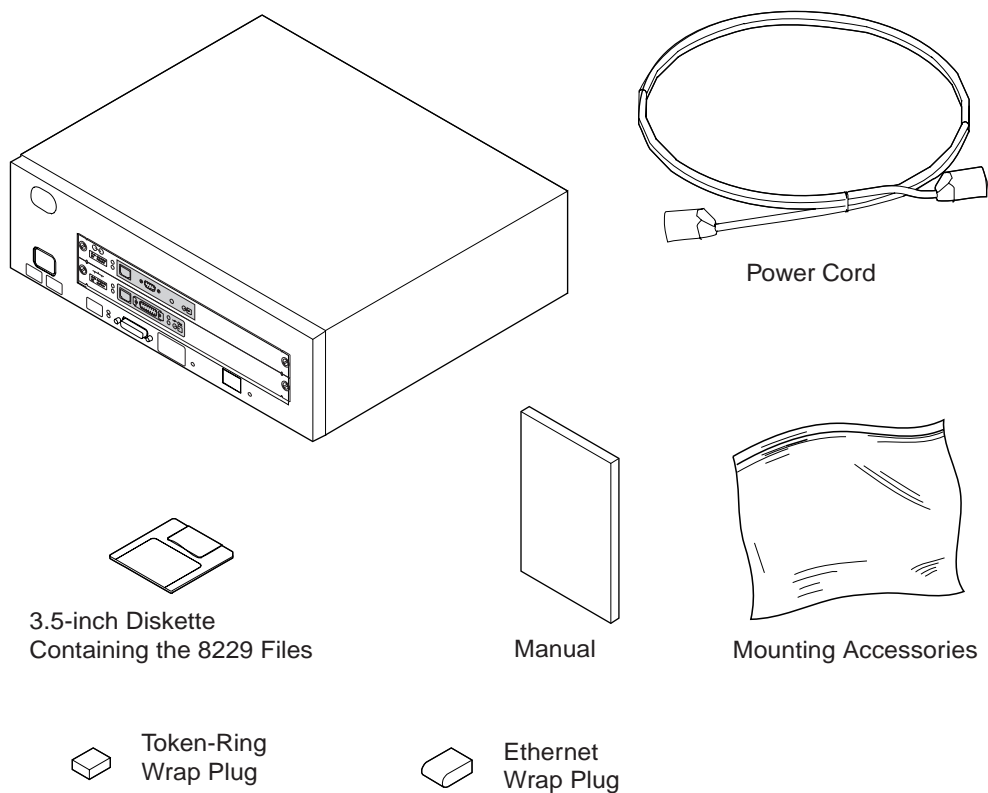

Figure 2-8. Contents of the Shipping Carton for the Ethernet Bridge.
- c. \_\_\_\_ Make sure that you have everything (see Figure 2-8), then go to step 2 on page 2-9.